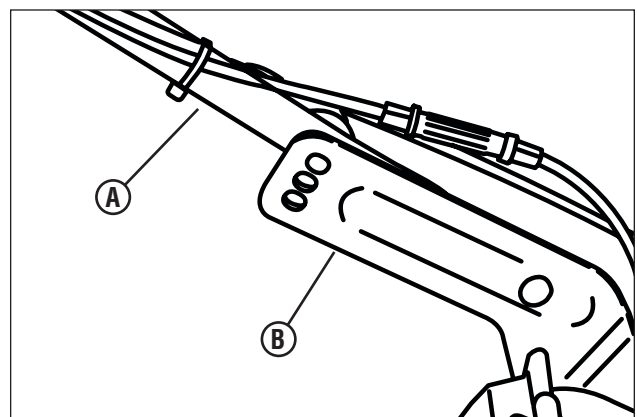

Figure 5: Adjusting the handle height
1. Remove the knobs and carriage bolts securing the lower handle **(A, Figure 5)** to the mounting brackets **(B)**.